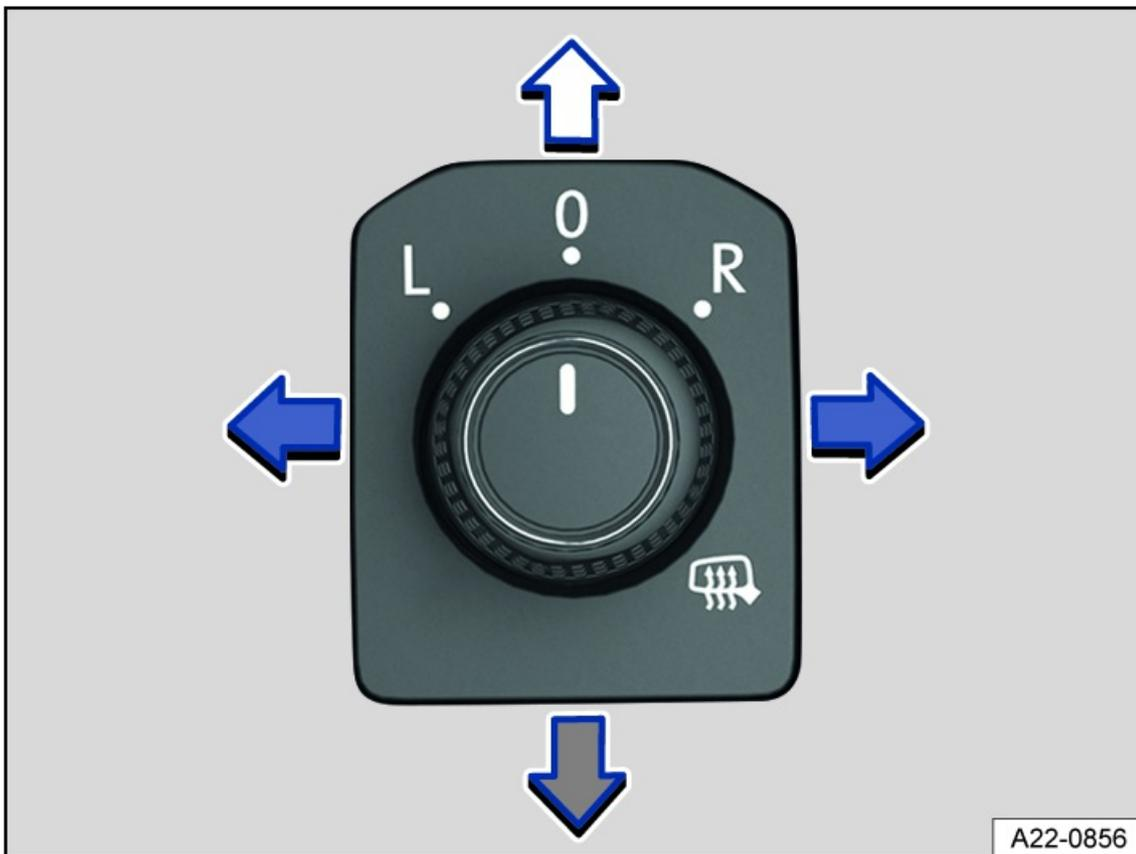

Fig. 85 In the driver door: knob for the outside mirrors.
2. Turn the knob in the driver door to the preferred symbol *fig. 85*.